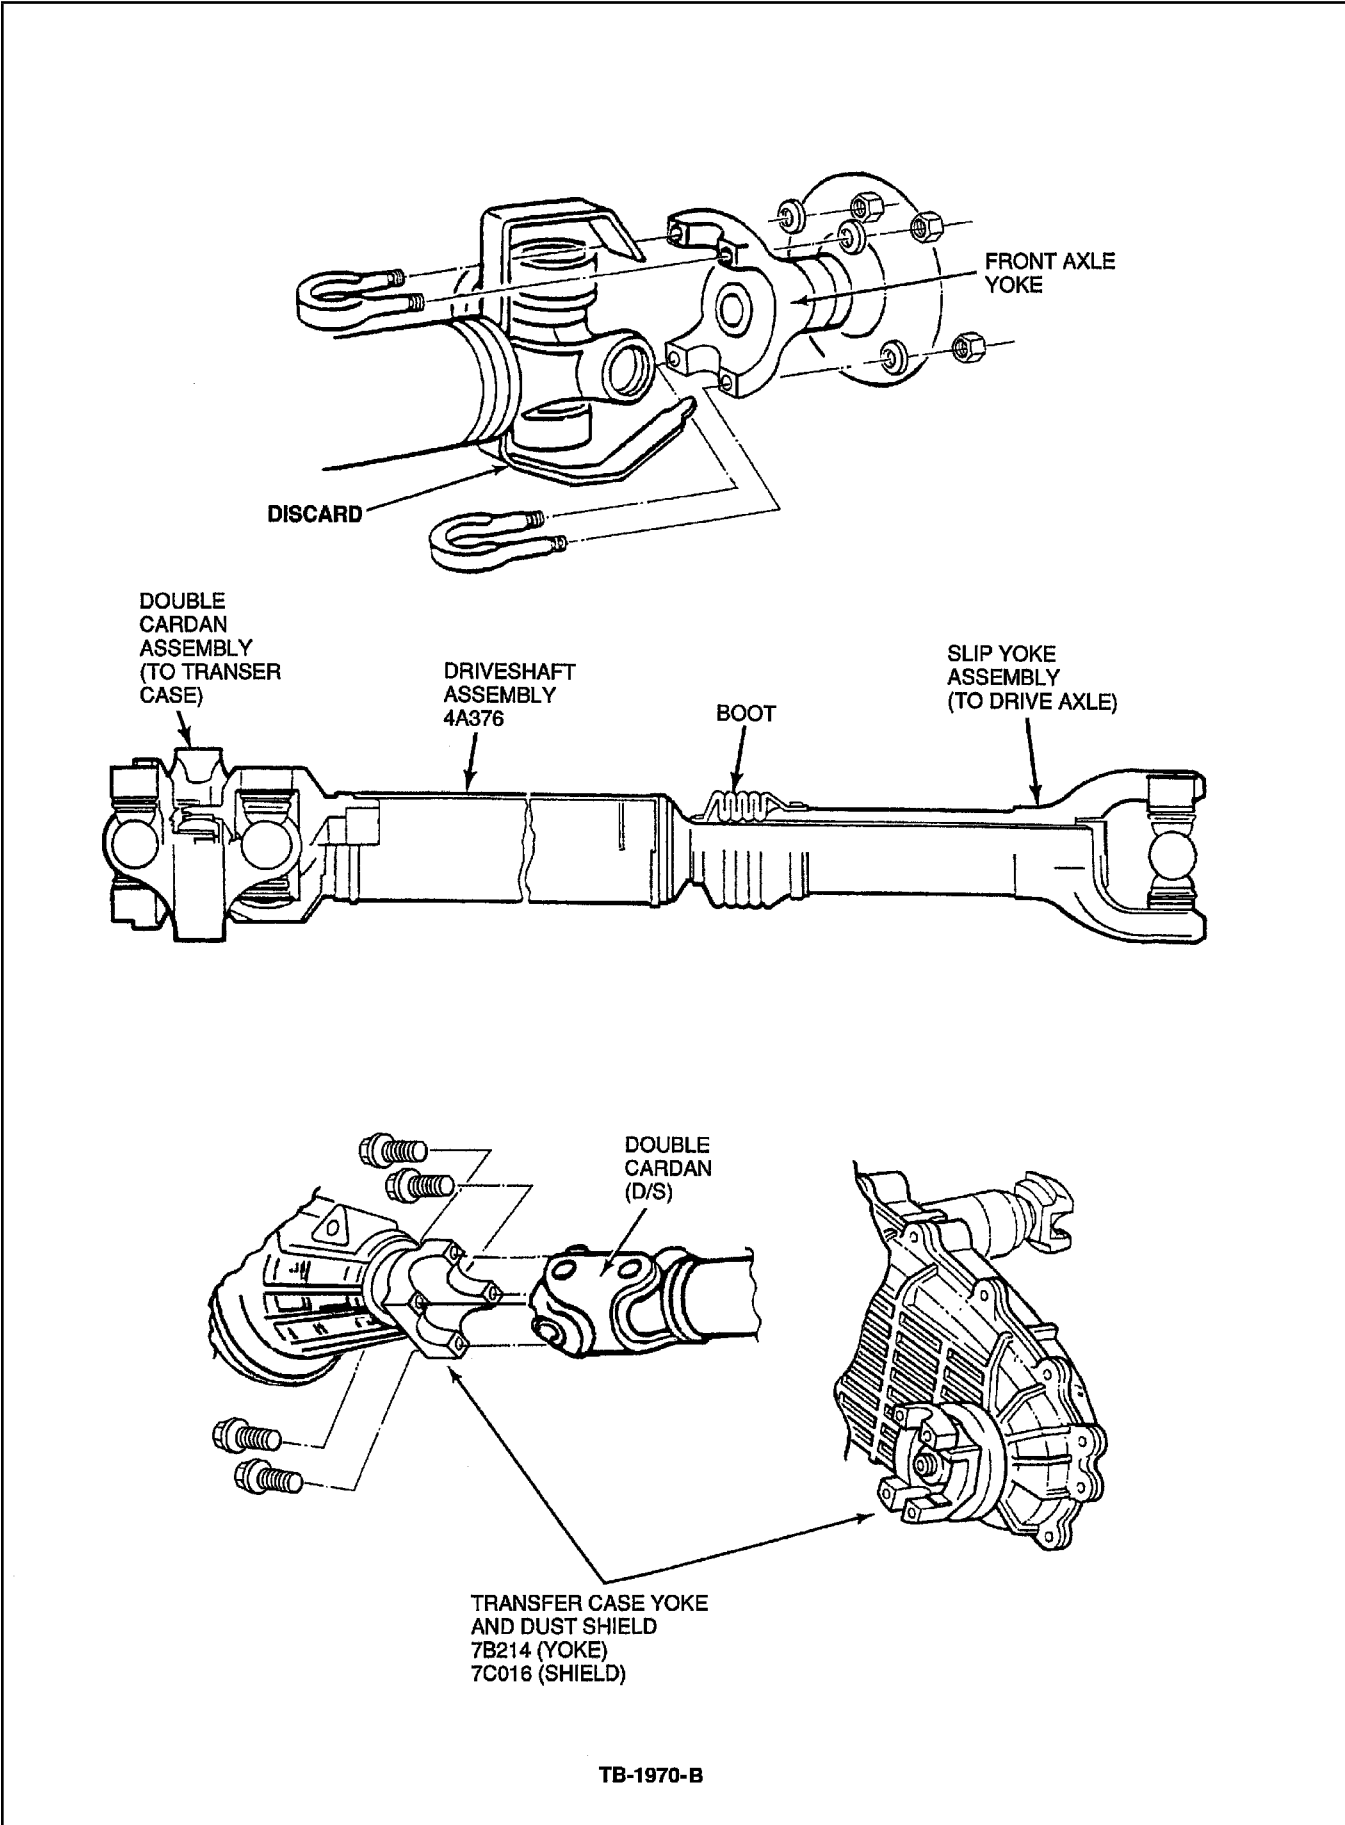

Figure 1 - Article 97-13-22
- b. Install the four (4) bolts, Figure 1.
3. Install the driveshaft to the front axle yoke using two (2) U-bolts, four (4) washers and nuts, Figure 1.